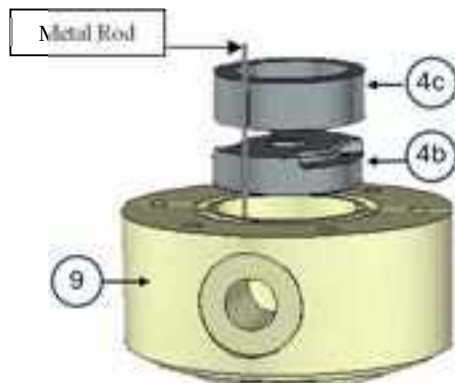

Figure 10
- 2- Insert a metal rod into the hole identified in Figure 8, on the bottom of the pump casing, to act as a guide for inserting the graphite bushings (4b)(4c) (Figure 10).